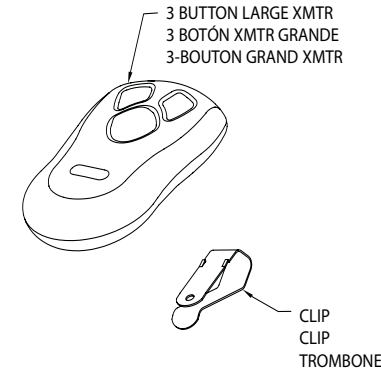

Fig. 2
Step 5-1 Battery replacement **Fig. 2.**
The receiver in the GDO's powerhead can receive signals at 315 AND 390 MHz. The remote is factory set at 315 MHz. See Figure 2 for frequency selector switch Settings.